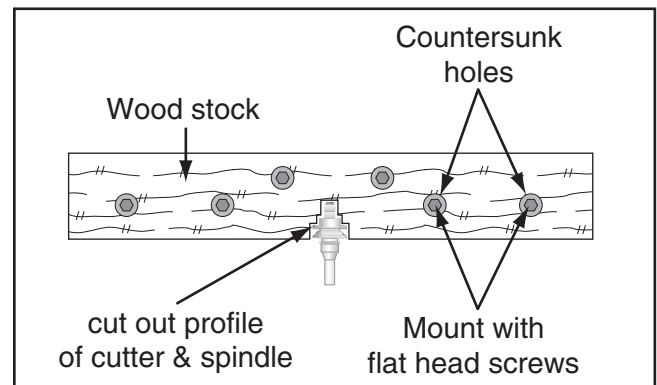

Figure 54. Example of a zero-clearance fence board.
4. Cut outline of spindle and router bit from center of the stock selected in **Step 3**, as shown in **Figure 54**.
5. Create countersunk mounting holes in zero-clearance fence board (see **Figure 54**) to secure new fence and router bit guard to base.